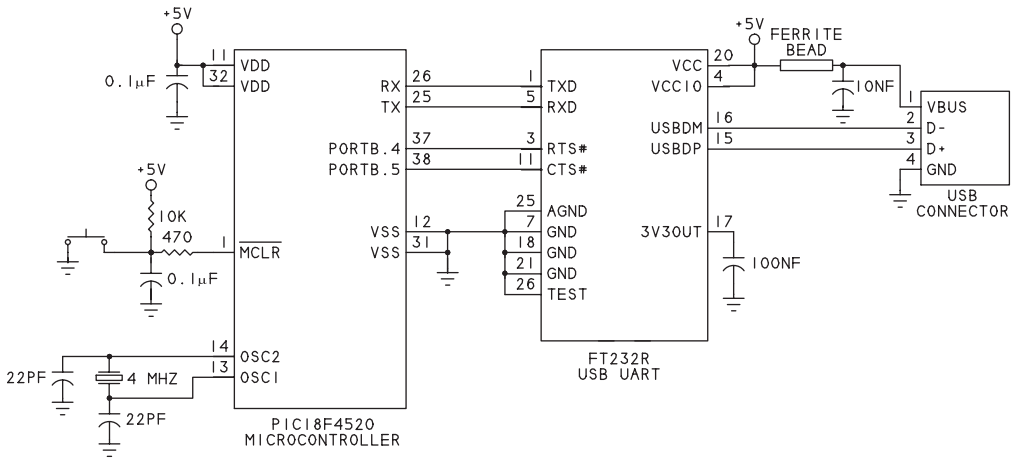

Figure 15-4: This USB virtual COM port uses an asynchronous serial interface to a PIC microcontroller.
Figure 15-4 shows a circuit that can serve as a virtual COM port. The USB controller is an FT232R, which interfaces to a PIC18F4520 microcontroller. The PIC18F4520's asynchronous serial output (TX) connects to the FT232R's asynchronous serial input (RXD), and the FT232R's asynchronous serial output (TXD) connects to the PIC18F4520's asynchronous serial input (RX).